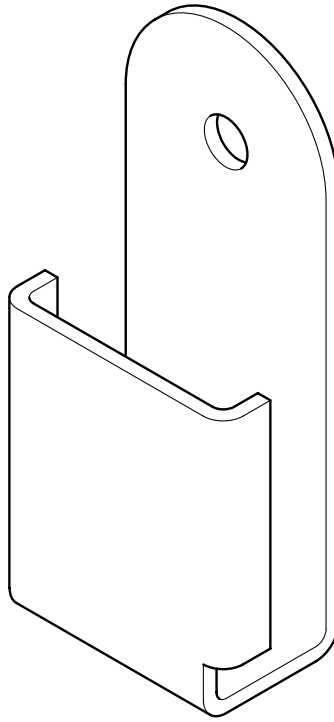

Fig. 1
- 1 Fig. 1 shows the design of a holder used to display a mobile phone.